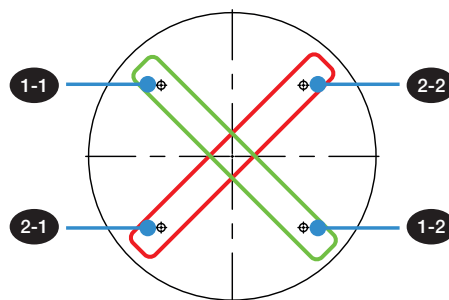
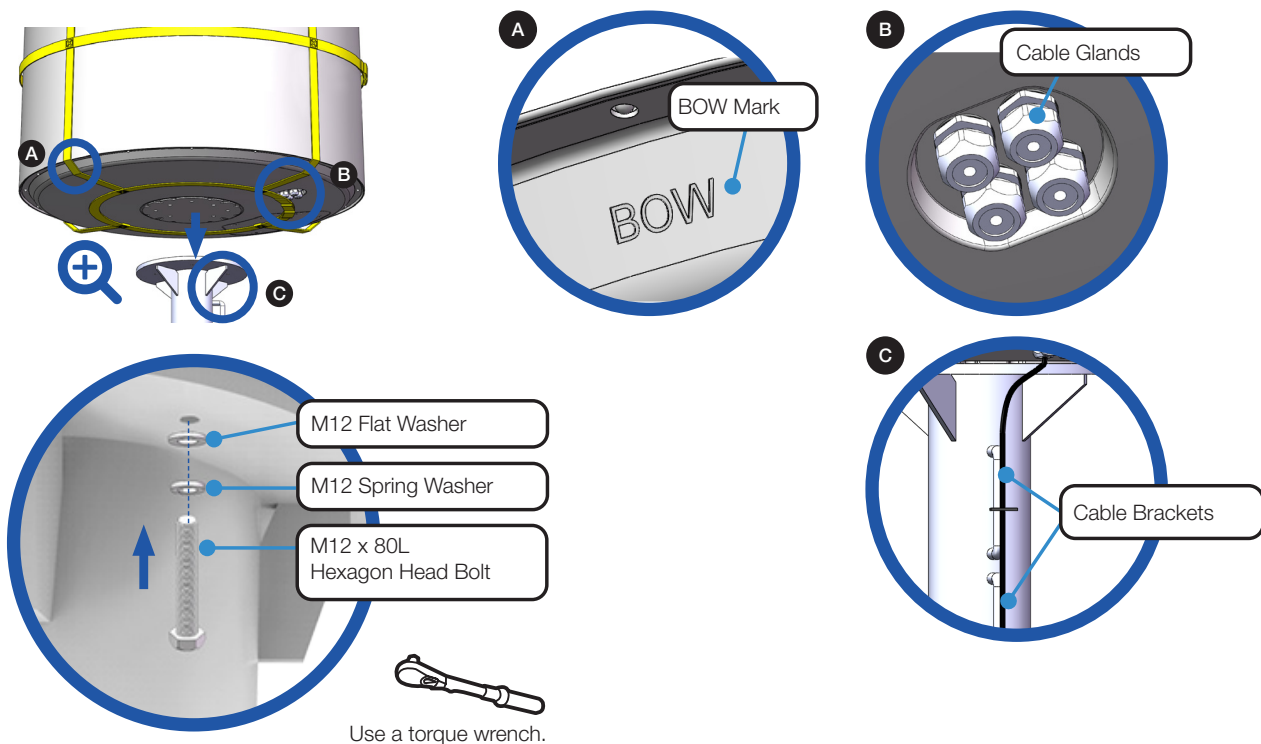

Figure 13: Installing Sequence of Bolts
Figure 14: Installing Bolts for Antenna-Mast Assembly
2. Lower the antenna onto the mast using the crane, making sure the mounting holes of the antenna are aligned with those of the mast. Check the positions of the BOW mark, cable glands, and cable brackets (see Figure 14) when mounting the antenna on the mast. Make sure the cable from the mast is aligned with the cable entry on the bottom of the antenna for stable connection.
3. Apply Loctite #263 to the bolt threads, insert the bolts and washers from under the mast into the built-in nuts on the bottom of the radome (see Figure 14), and then lightly tighten them by hand. Use a crisscross sequence as shown in Figure 13.